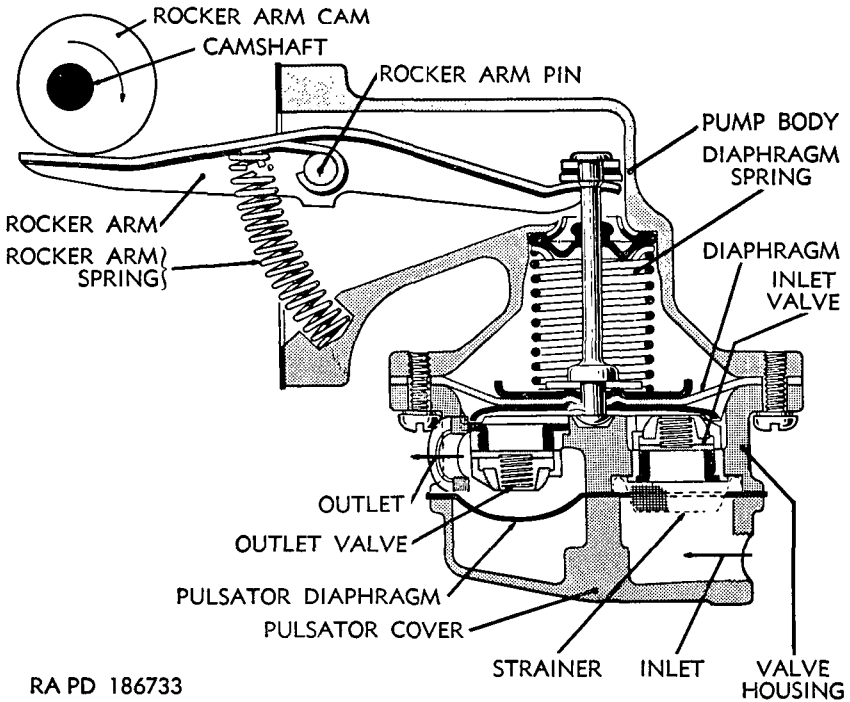

Figure 61. Fuel pump—side cross section.
tion. They consist of a pump body containing the rocker arm and the diaphragm assembly; a valve housing in which the inlet and outlet valves are seated; a pulsator cover; and a filter, either screen type or ceramic type variously located. Figures 61 and 62 show a cross section of a typical Carter mechanical fuel pump.
a. Rocker Arm Action. All mechanically driven models operate on the same principle. Refer to figures 61, 62, and 63 for a typical installation. When properly installed, the rocker arm of the fuel pump lies directly underneath and in contact with the camshaft rocker arm cam. Each revolution of the camshaft causes the fuel pump to go through one complete cycle in the following manner. The rocker arm cam depresses the rocker arm; the arm being pivoted on the rocker arm pin lifts the diaphragm in the pump body thereby compressing the diaphragm spring and inducing subatmospheric pressure at the inlet valve. Atmospheric pressure in the fuel tank forces fuel through the inlet, screen, and valve into the inlet valve pump body. When the diaphragm has reached its highest position the rocker arm cam swings away from the rocker arm, permitting the rocker arm spring to push the rocker arm back rapidly to its initial position.